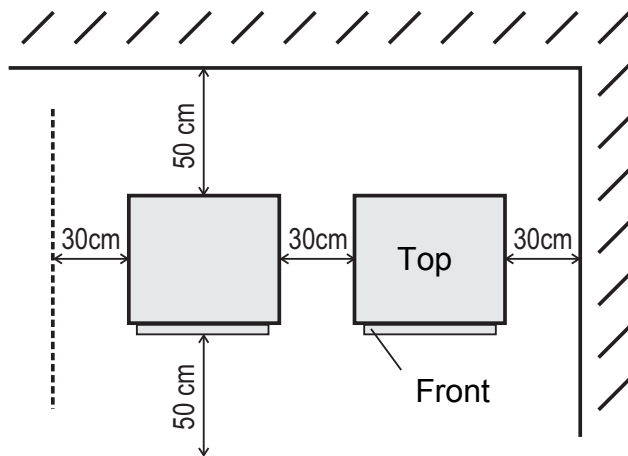

Figure 5
- Keep at least 50 cm space at the front side and back side of the Sunmaster XL and 30 cm between the XL enclosures, see figure 5.